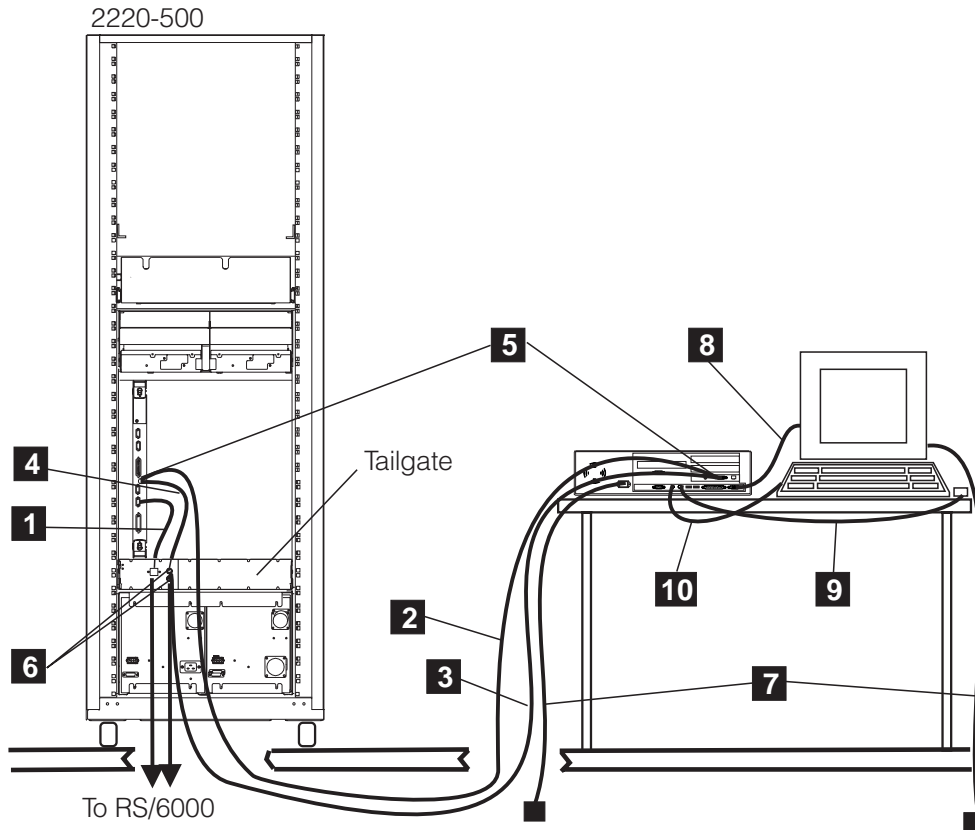
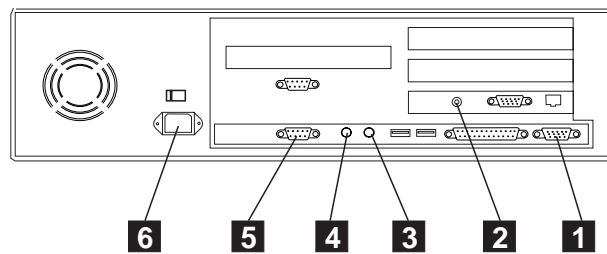

Figure 1-2. NAS, Cables Installation
Figure 1-3. NAS Connectors
3. \_\_\_ Refer to: Figure 1-2 on page 1-3 to locate the cables and Figure 1-3 on page 1-3 to locate the NAS connectors, then install the following cables: